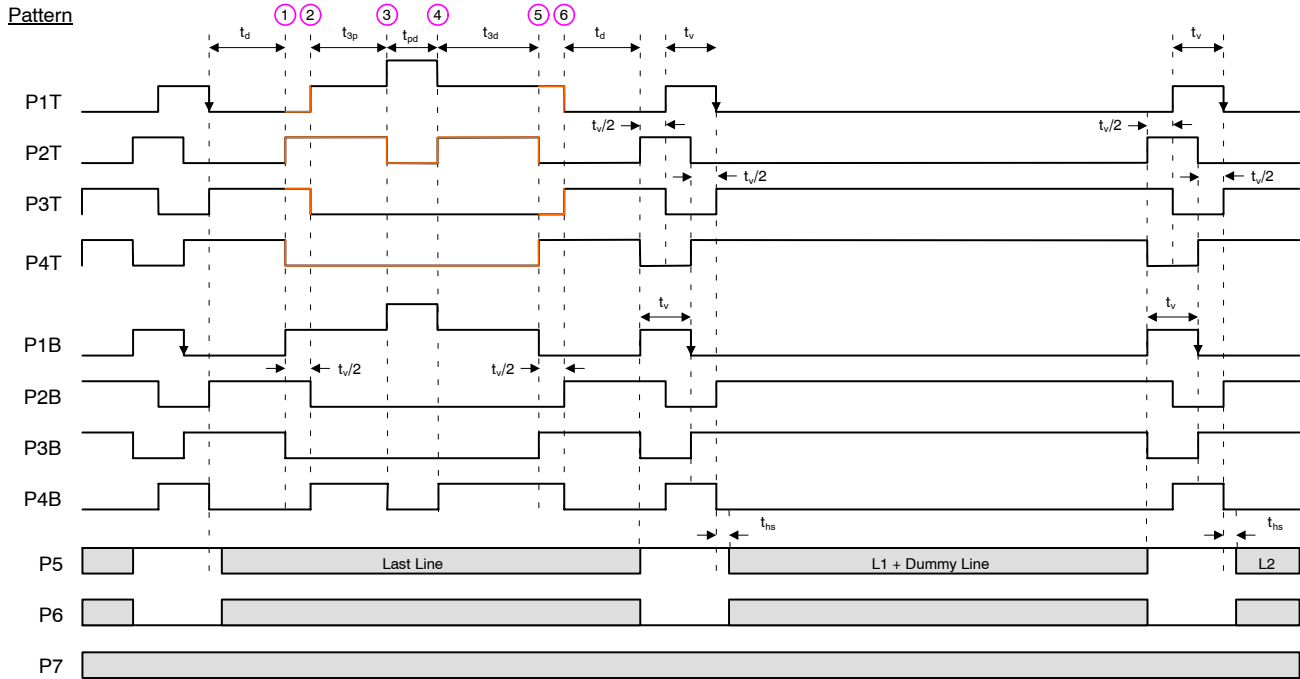
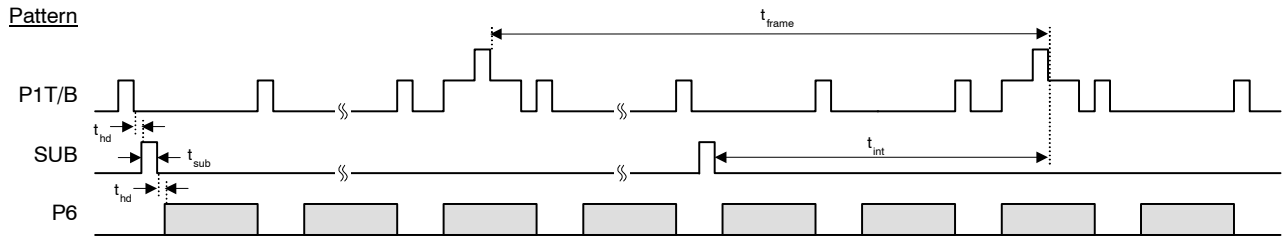

Figure 23. Photodiode Transfer Timing
**Figure 25. Pixel Timing Detail**
1. Refer to timing diagrams as shown in Figure 23, Figure 24, Figure 25, Figure 26 and Figure 27.
The timing sequence for the clocked device pins may be represented as one of seven patterns (P1–P7) as shown in the table below. The patterns are defined in Figure 23 and